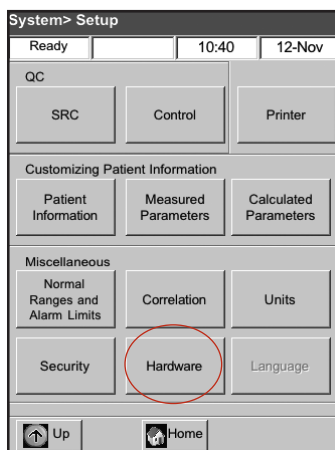

Figure H-23: System > Setup screen
3. From the Setup screen, tap **Hardware** (Figure H-23).